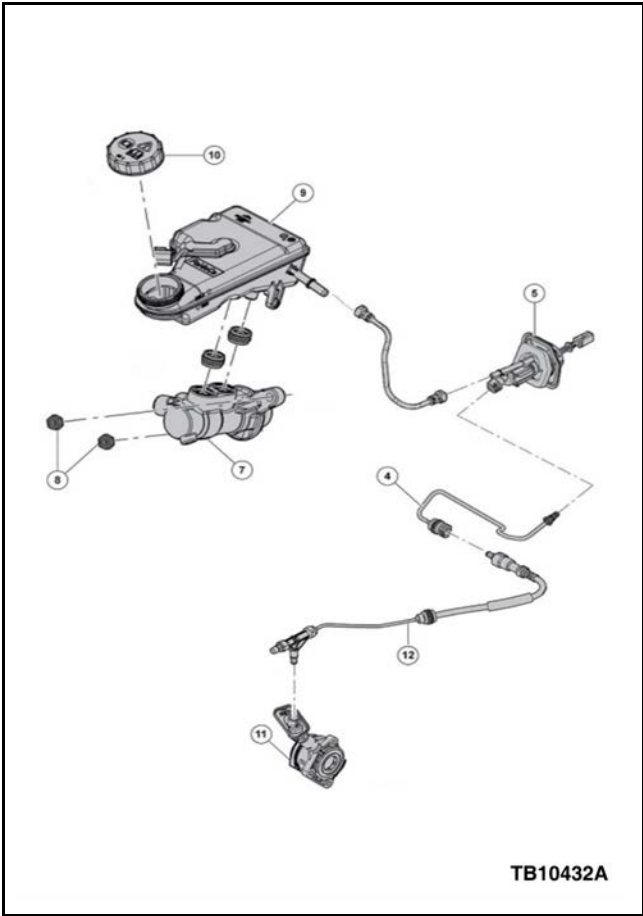

Figure 3 - Article 13-6-10
- 10. Replace the clutch slave cylinder hydraulic tube with revised service part. (Figure 3 - Item 12)